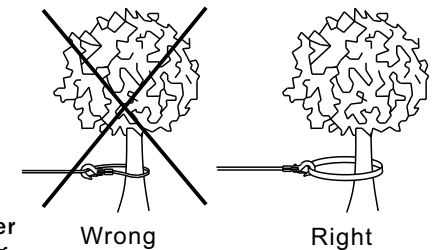

Figure 3
7. Never hook the wire rope back to itself because it could damage the wire rope. Use tree trunk saver (see Figure 3)
10. It is important to lay a blanket or jacket over the wire rope near the hook end when pulling a load (see figure 3). This will slow the snap back of a broken wire rope and help to prevent serious injury and damage.